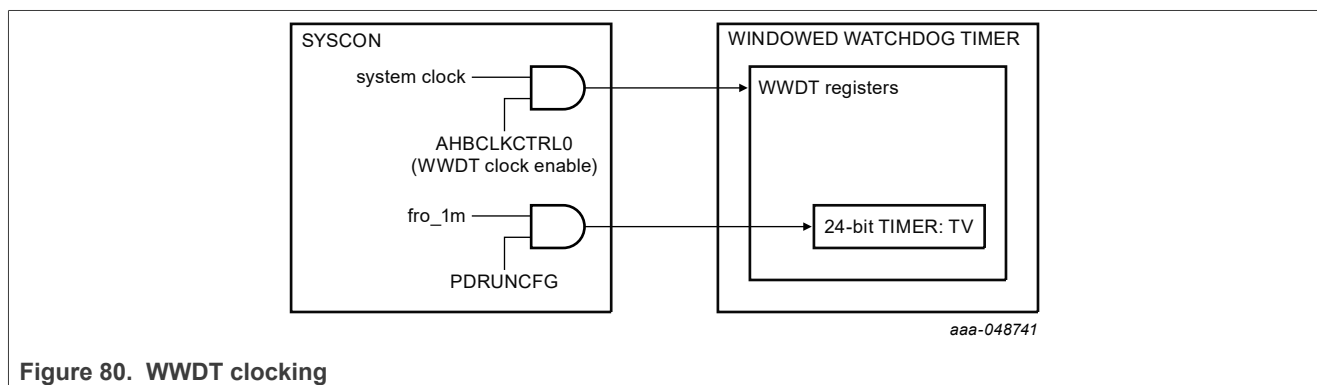

Figure 80. WWDT clocking
- The watchdog clock (WDCLK) is always derived from the FRO_1MHz clock (see Figure 80) using the WDT clock divider register value in the SYSCON module (see the section "WDT clock divider (WDTCLKDIV)" in the Register description (Ref. 5) can divide. The accuracy of this clock is limited to $\pm 25\%$ over temperature, voltage, and silicon processing variations. To determine the actual watchdog frequency, use the frequency measure block (see Section 11).